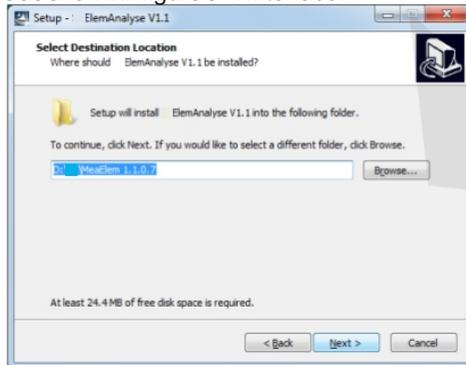

Figure 5-4
4. Appears as shown in figure 5-4 interface: